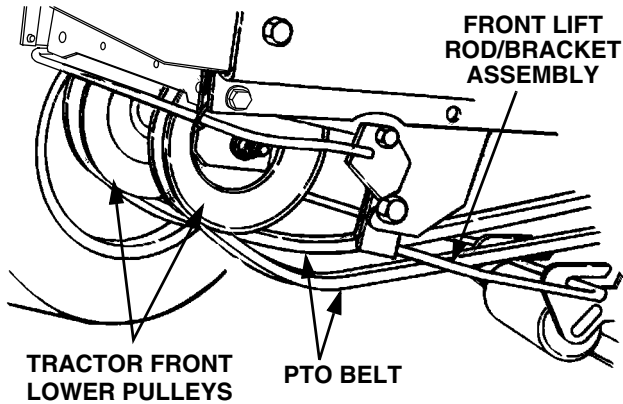

Figure 2-10
- Open the tractor hood. From the front of the tractor, pass the belt upward in front of the lower front pulleys and inside the tractor frame (Refer to Figure 2-10).
13. Twist the two sides of the PTO belt 1/4 turn inward to engage the narrow sides of the belt into the grooves of the two tractor front-lower pulleys (See Figure 2-10).